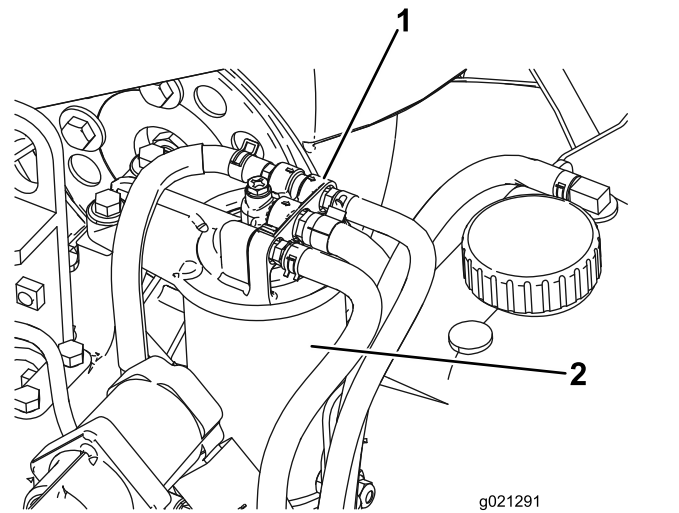

Figure 93
2. Clean the area around the fuel-filter head (Figure 93).
3. Remove the filter and clean the filter-head mounting surface (Figure 93).